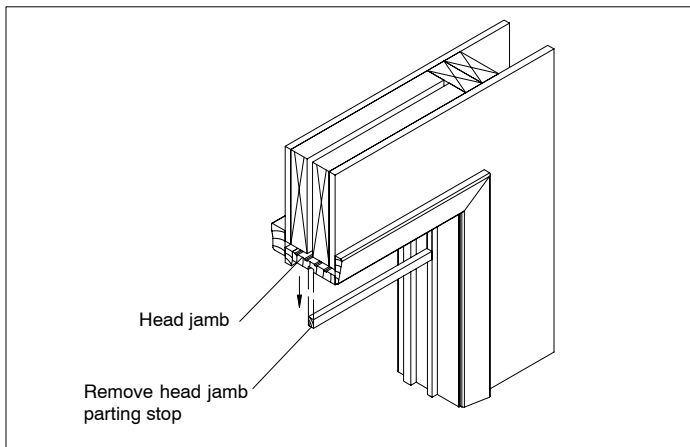

Figure 2
3. Slide the top sash down to the sill and remove the header part stop from the header. See figure 2.